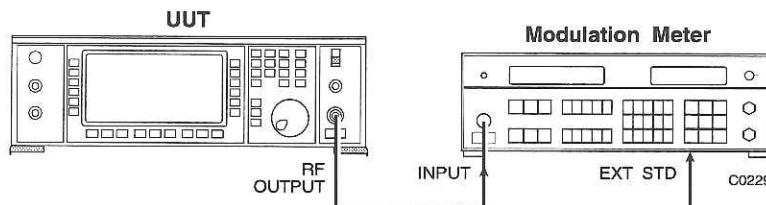

Fig. 5-2-11 Equipment configuration for the frequency standard
- (1) Connect the RF OUTPUT on the UUT to the RF input on the modulation meter. Connect an external standard to the modulation meter. Equipment configuration is shown in Fig. 5-2-11.